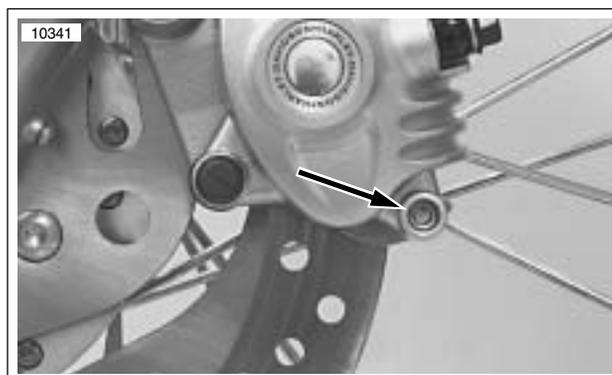

Figure 1-24. Brake Pad Pin (Plug Removed)
- See Figure 1-24. Loosen, but do not remove, brake pad pin.